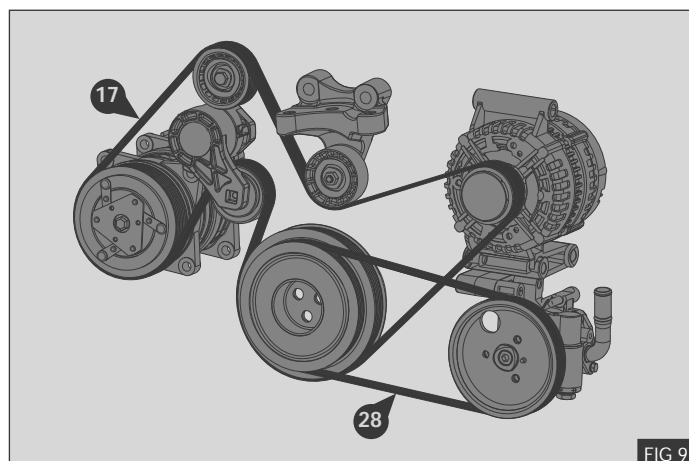

FIG 9
1. Fit the supplied replacement poly groove engine drive belt (17) to the engine in the same configuration in accordance with the original manufacturers design - Fig.9
2. Refit the original power steering stretch self tensioning drive belt (A) using the correct installation tool (Not supplied) - Fig 9